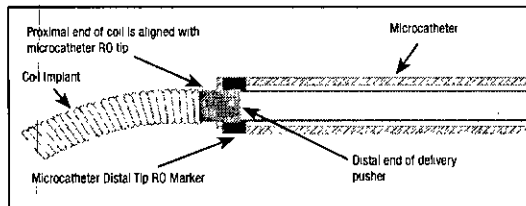

Figure 4 - Position of Marker Bands for Detachment
28. Advance the coil into the desired site until the radiopaque marker on the delivery pusher is aligned or slightly distal of microcatheter distal tip RO marker, positioning the detachment zone just outside the microcatheter tip. See Figure 4.